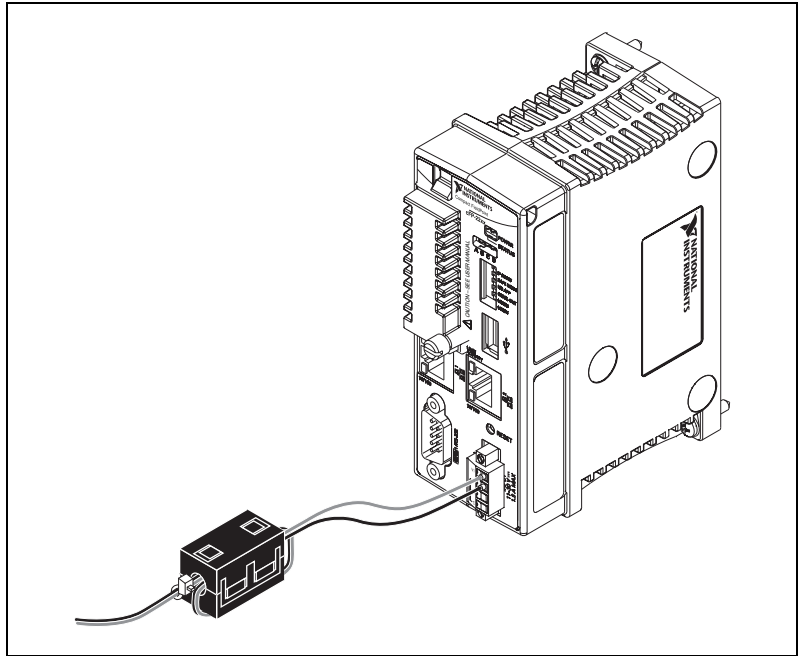

Figure 24. Ferrite Installed with Tie Wrap
2. Install a tie wrap or other device on the power wires to secure the ferrite in place near the controller power connector, as shown in Figure 24.